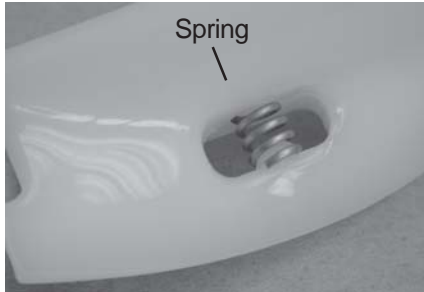

Figure 17. Auger Flight Spring
- Turn springs into the plastic flights (See Fig.17). Install first flight to bottom of auger, rotate, add successive flights from bottom as the auger is pushed slowly into the freezer barrel. Carefully engage auger with drive socket in speed reducer by rotating auger slowly and pushing on end of auger. The front door will push auger into its final position when the door is tightened down.